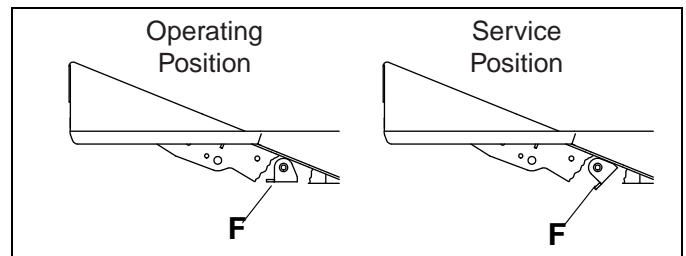

Figure 3C
1. Rotate anti-sway mechanism (F), located under left side floor panel, to Service position. **Figure 3C**
4. Rotate anti-sway mechanism (F) to it's operating position. **Figure 3C**